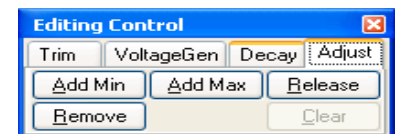
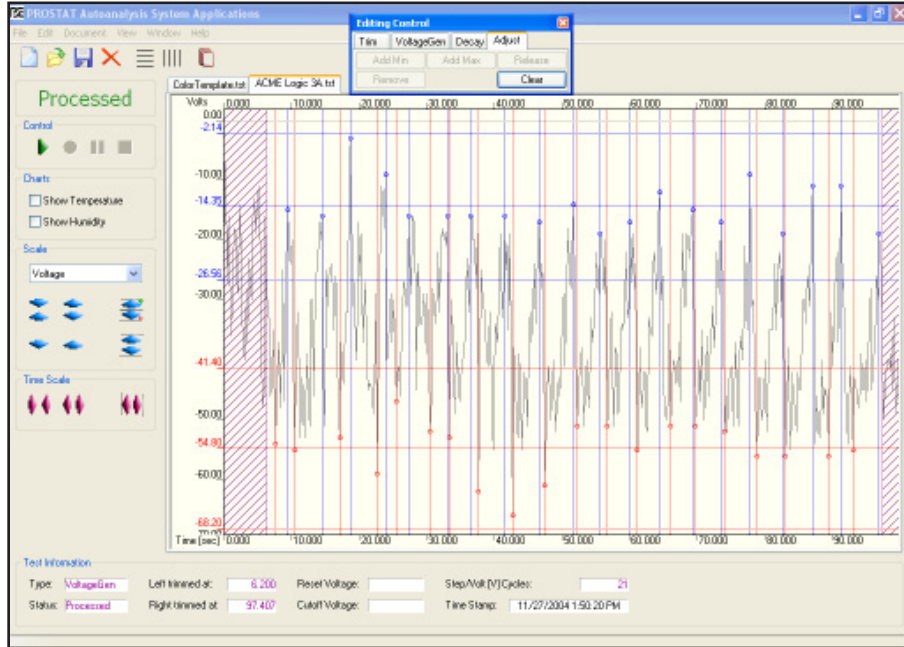

Figure 33: Click Adjust then Release to begin the Autoanalysis
Figure 34: Releasing Data and Process the 3-Sigma Analysis for Minimum & Maximum peak sets
6. Press the **Adjust** tab in the **Editing Control** window as shown in Figure 33 at right. This allows you to add or remove Min or Max peaks from the analysis.
7. Once peaks for each walking step are identified Release the data (Figure 33) for analysis and report preparation. Once the data is released, 3 Sigma data (Figures 34 & 35) are calculated, displayed and a report can be generated.